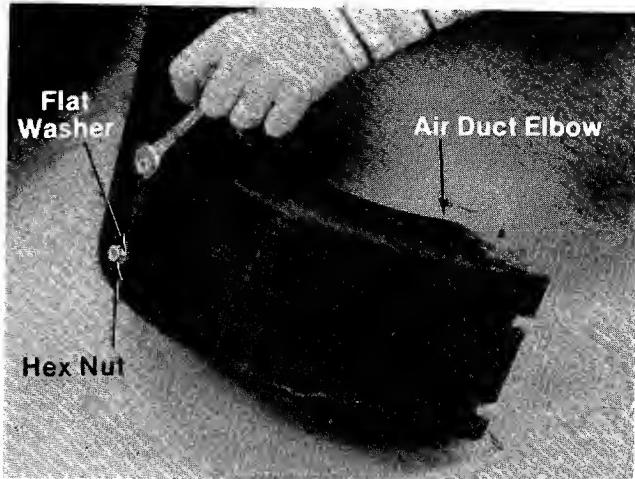

FIGURE 2
3. Insert studs of air duct liner through holes in air duct. Thread on two (2) flat washers (C) and hex nuts (B) several turns—DO NOT TIGHTEN. See figure 2.
11. Secure throttle control cable to the lower handle with the cable ties (K) provided.
12. Place ferrule (U) through control level (M).
13. Place flat washer (N) over ferrule. Thread control rod into ferrule about eight or nine turns.
16. Fasten control lever in position with hex bolt (J) and two hex nuts (B) provided.